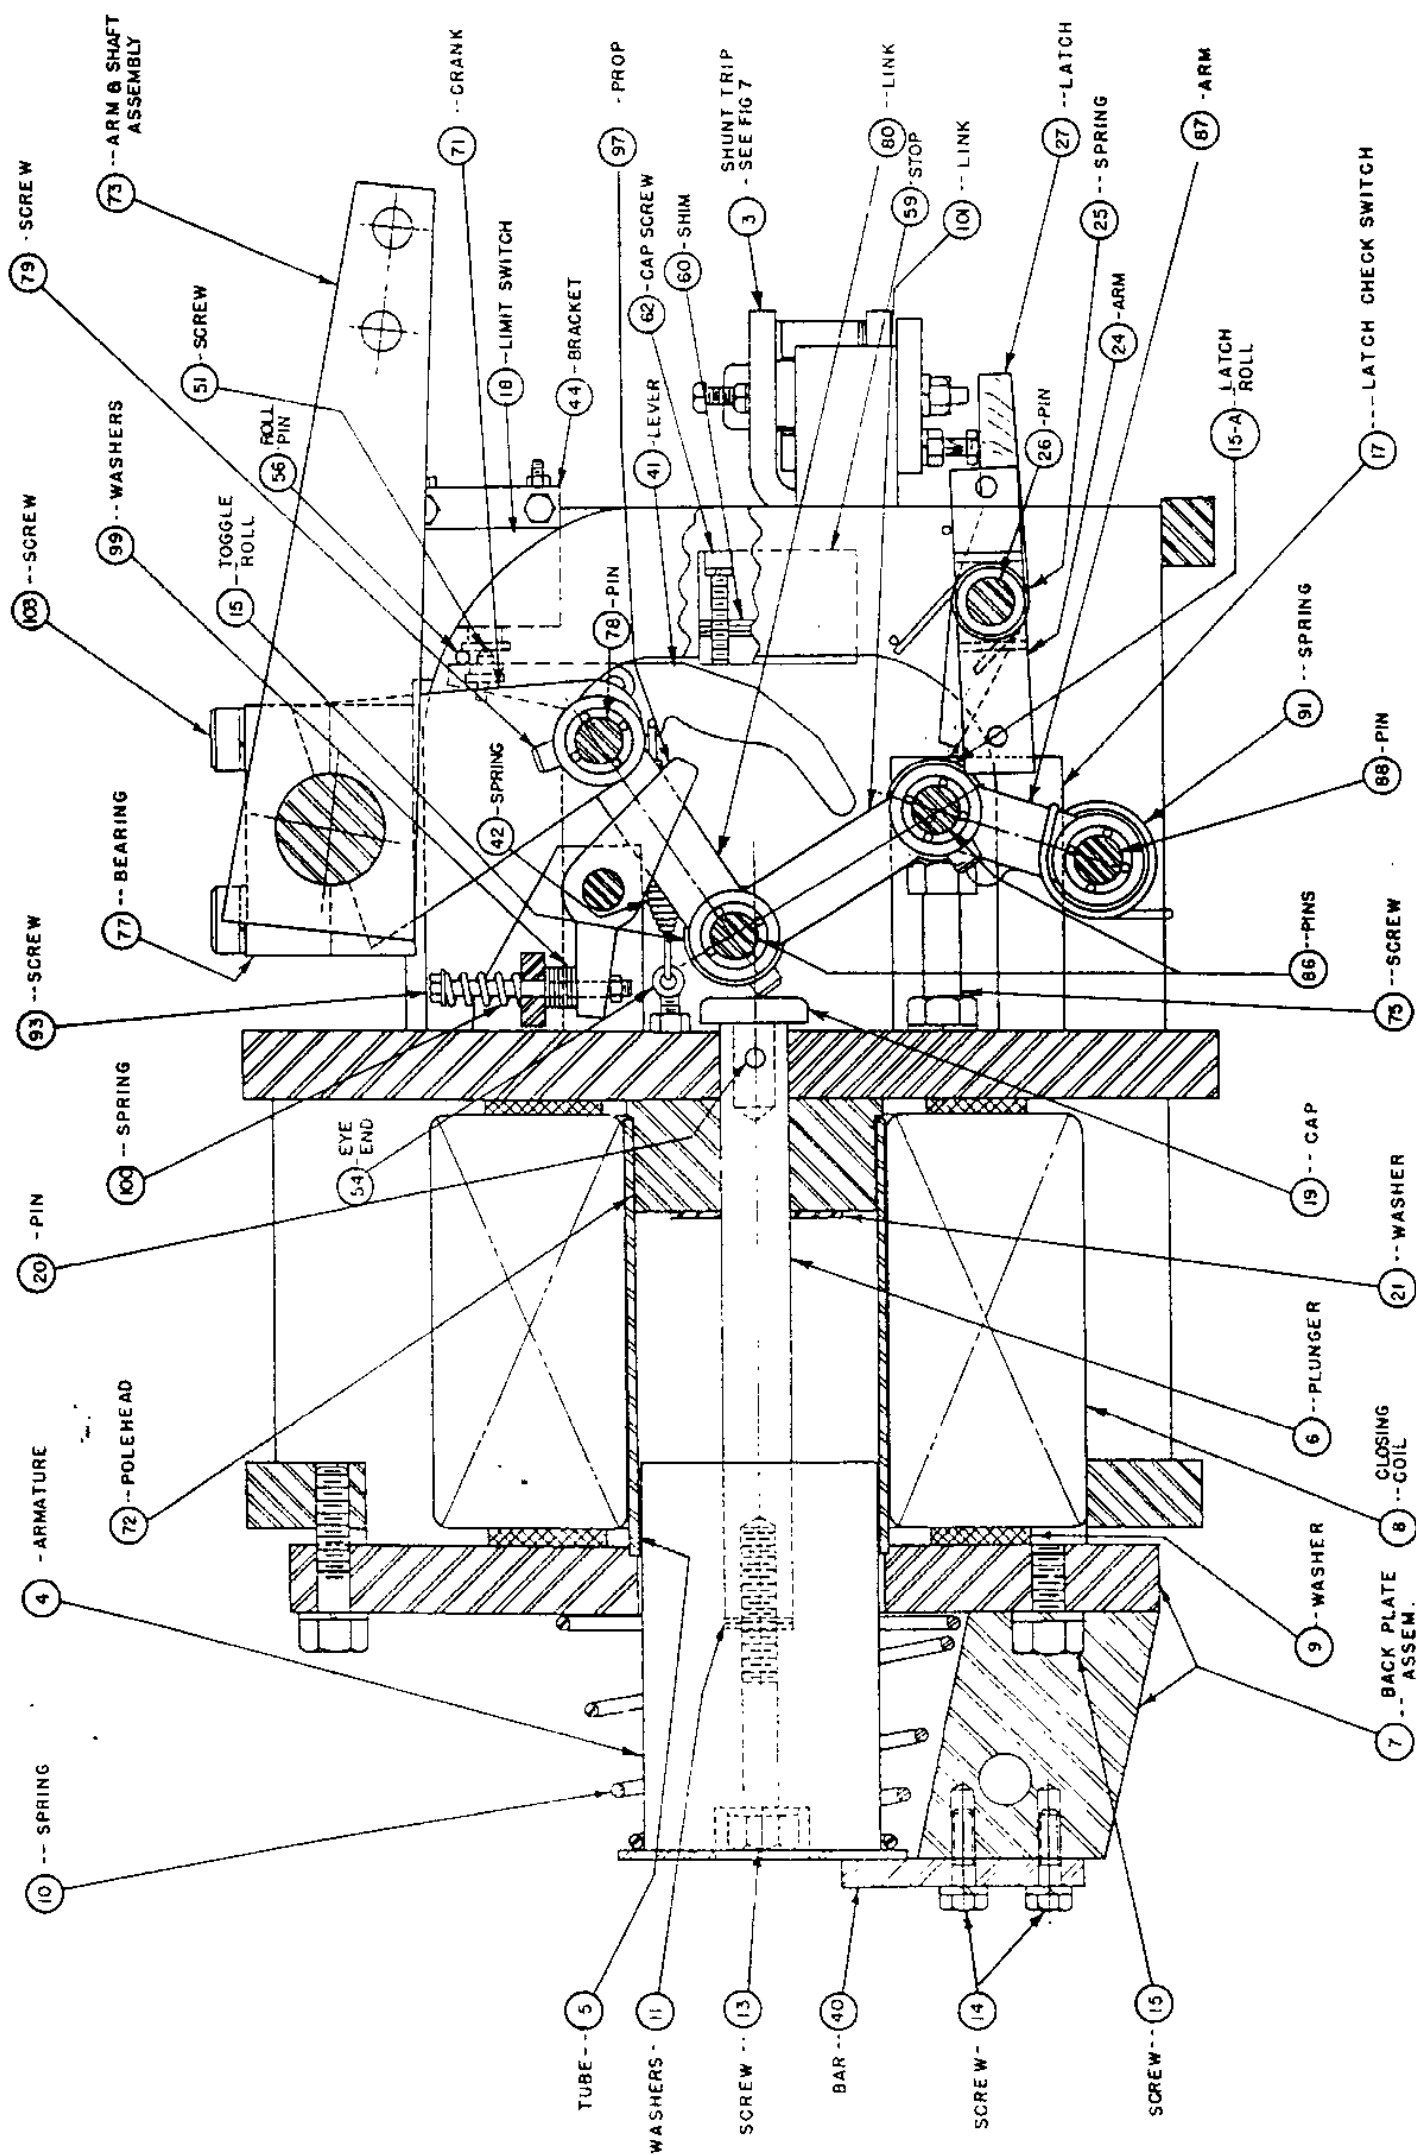

FIG.4
3.3 OPERATOR (Fig. 4)
- 13 - Check limit switch (Fig. 4) adjustment per Section 4.6. Operate manually and electrically. Inspect to see that contacts are clean and make properly.